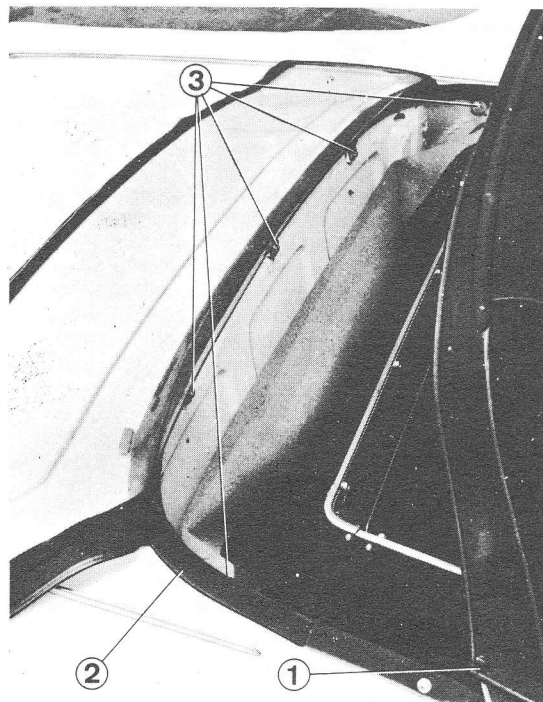

FIG 12:14 Folding top attachments and correct stowage
- 2 Refer to **FIG 12:13** and remove both stop screws, items 1 and 2, on the lower pivot rod.
- 4 Slacken both screws, item 3, on the lower bearing.
Key to Fig 12:14 1 Snap fasteners 2 Velcro strip
Refitting the mobile frame is the exact reverse of the removal instructions. The rotational friction of the ventilator can be adjusted by tightening or slackening the screws (see item 3 of FIG 12:13).